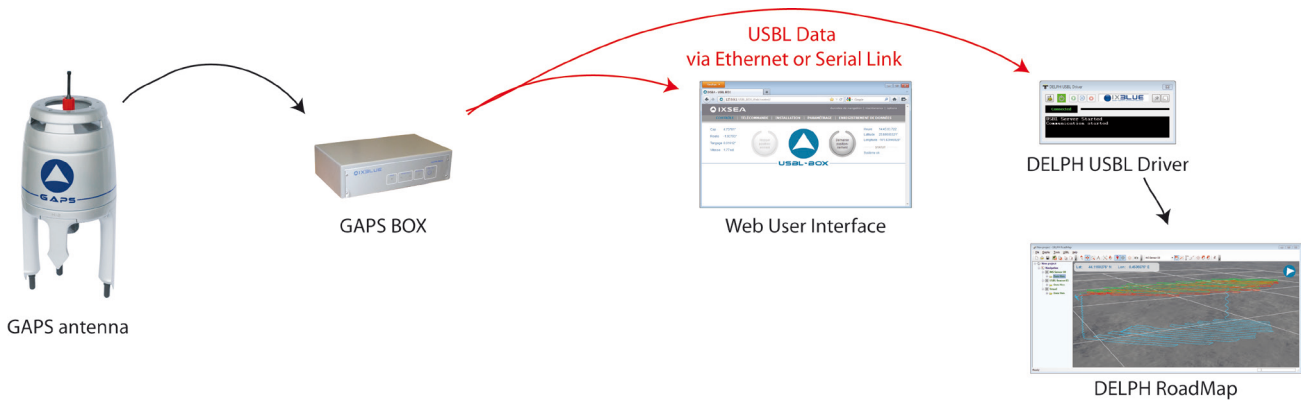

Figure 41 – Visualization of USBL data in real-time mode
- Real-time mode: the position data is output via the Ethernet or serial link, DELPH USBL Driver transmits the real-time data to DELPH RoadMap and the data is displayed in DELPH RoadMap main display area. See Figure 41.